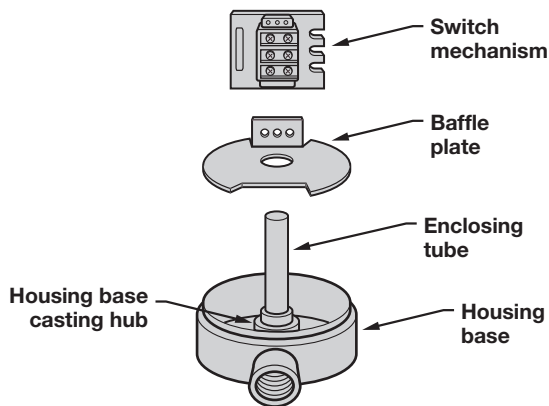
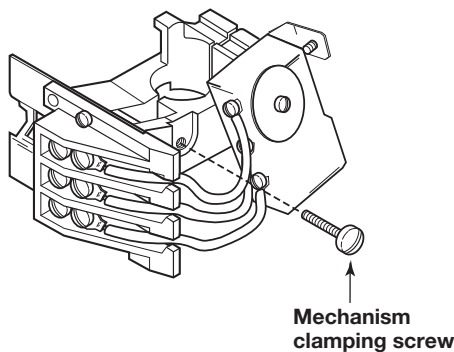
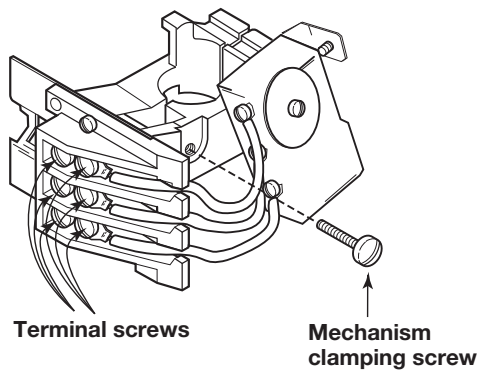

Figure 18
Figure 19
Figure 21
4. Make sure the switch mechanism is seated all the way down on the baffle plate. Refer to Figure 18. Additionally, check that the mechanism clamping screw is tightened to assure that the mechanism is secured to the enclosing tube and in proper position on the baffle plate. Refer to Figure 19. The baffle plate should rest on the housing base casting hub.
6. Vibration may sometimes cause terminal screws to work loose. Check all terminal connections to be certain that screws are tight. Refer to Figure 21.
4. Make sure the switch mechanism is seated down on the baffle plate. Refer to Figure 18 on page 20. Additionally, check that the mechanism clamping screw is tightened to assure that the mechanism is secured to the enclosing tube and in proper position on the baffle plate. Refer to Figure 21. The baffle plate should rest on the housing base casting hub.